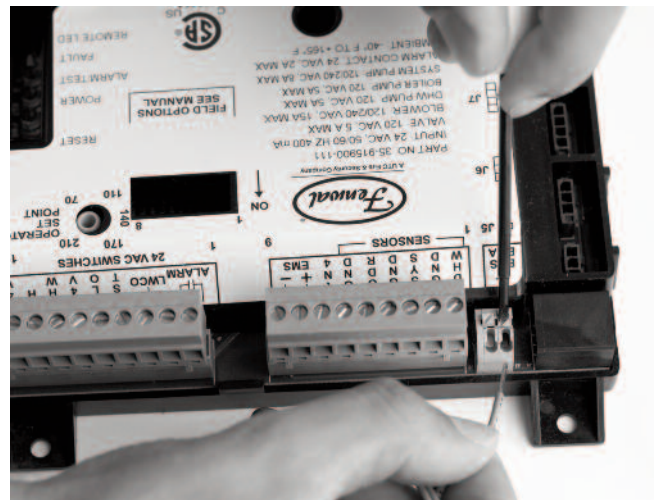

Fig. 18: FT_BUS Wire Connection
4. Connect the FT_BUS wires to the PIM by pressing down on the slots with a small screwdriver and then inserting the wires into the holes. See Fig. 18.